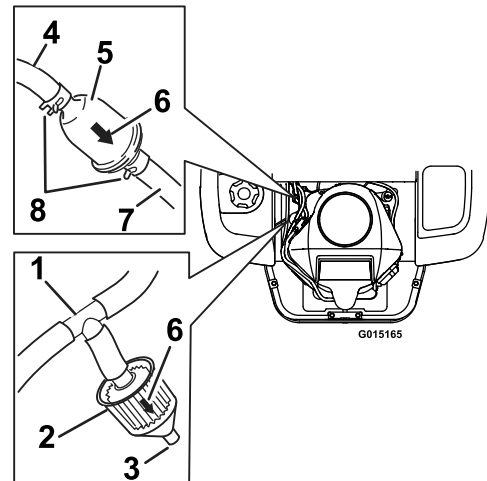

Figure 28
4. Squeeze the ends of the hose clamps together and slide them away from the filter (Figure 28).
6. Install a new filter with the flow direction arrow coming from the fuel tank and pointing to the engine. Move the hose clamps close to the filter (Figure 28) to secure it in place.
The machine is equipped with a emissions filter (Figure 28) connected to a tee fitting on the vent line coming from the gas tank. The filter has an open port by design. The filter should be inspected regularly. Replace the filter if the filter is dirty or clogged.